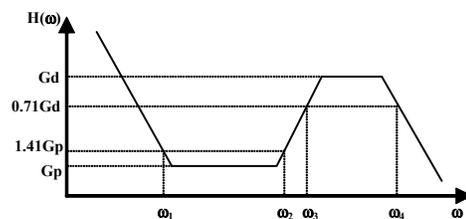

Figure 14. Transfer Function of the Compensation Network
The transfer function of the compensation network, defined as  $H(\omega) = IDR(\omega)/TMS(\omega)$ , is shown in Figure 14.
- d.  $C_D \times R_I$  determines the corner frequency,  $\omega_2 = 1/(C_D \times R_I)$ , where the differential component starts picking up (see Figure 14), as the frequency goes up.
h. The evaluation schematic is given in Figure 14.